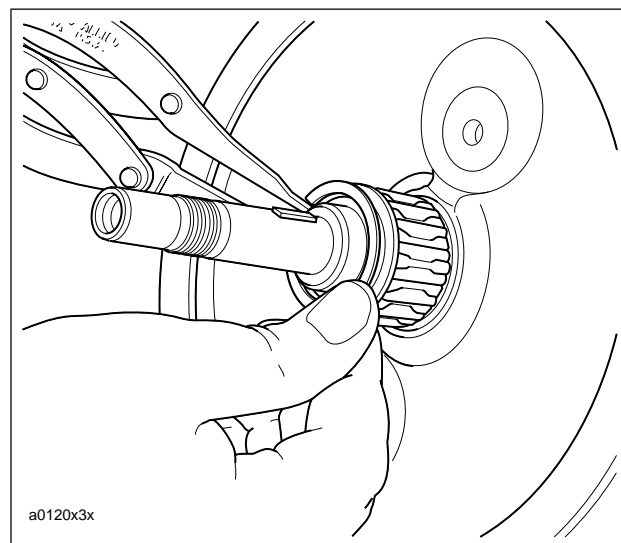

Figure 3-140. Pinion Shaft Bearing
12. See Figure 3-140. Install pinion shaft bearing.